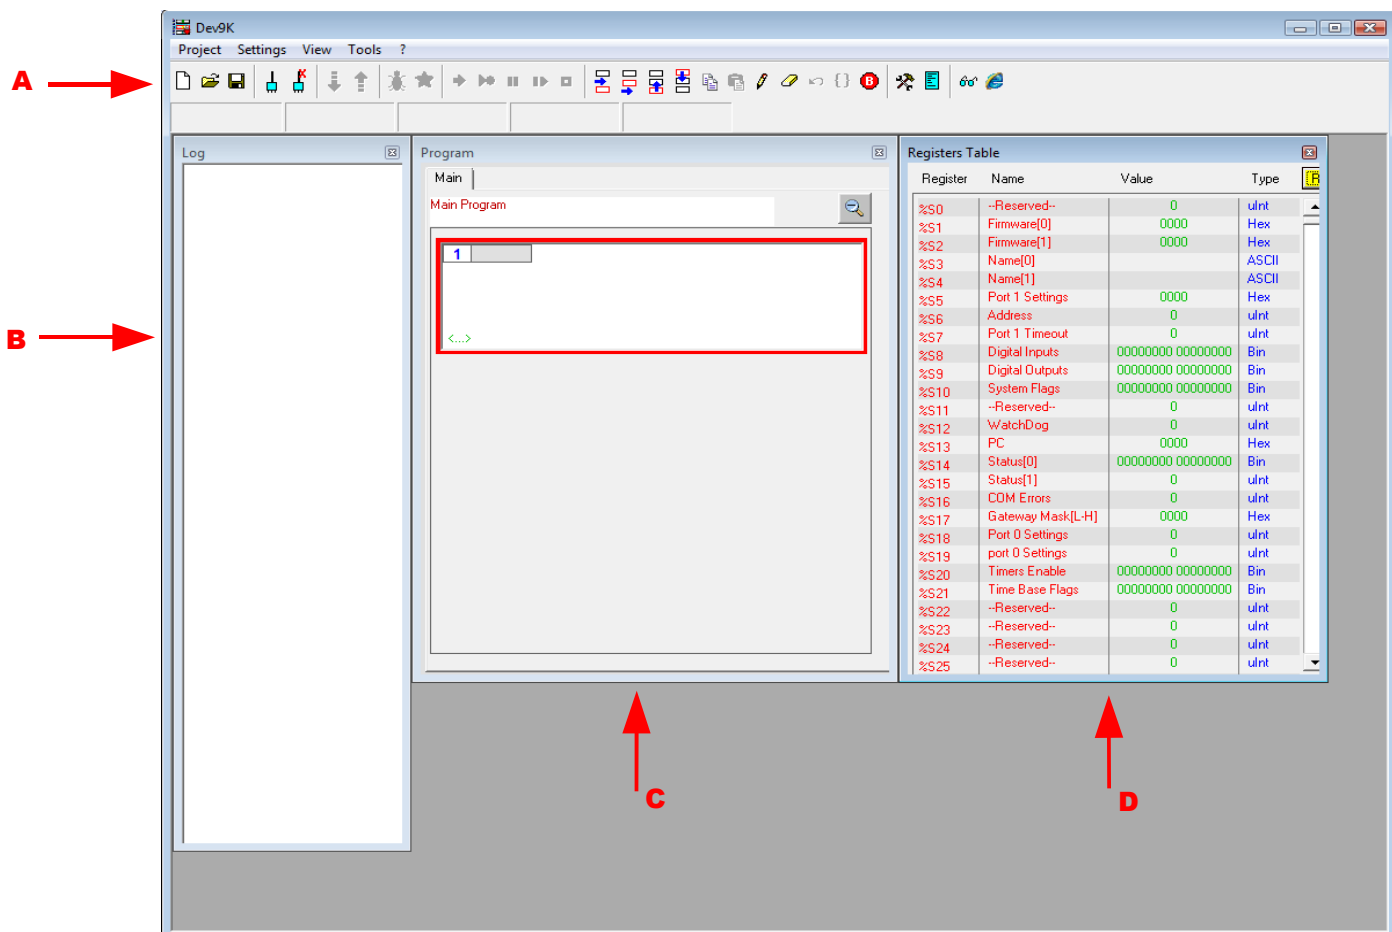

Fig. 1.1
- The Menu bar, the Tool bar and the Status bar (Fig.1.1-A)
- The Log window (Fig.1.1-B)
- The Main Program window (Fig.1.1-C)
- The Registers Table (Fig.1.1-D)
- “Log”: empty window that will contain the operation performed (Fig.1.1-B).
- “Program”: in this window it is possible to insert the Function Blocks to generate the Program. For a new Project this window contains a blank Function Block. (Fig.1.1-C).
- “Registers Table”:contains the list of Controller's Registers (Fig.1.1-D).